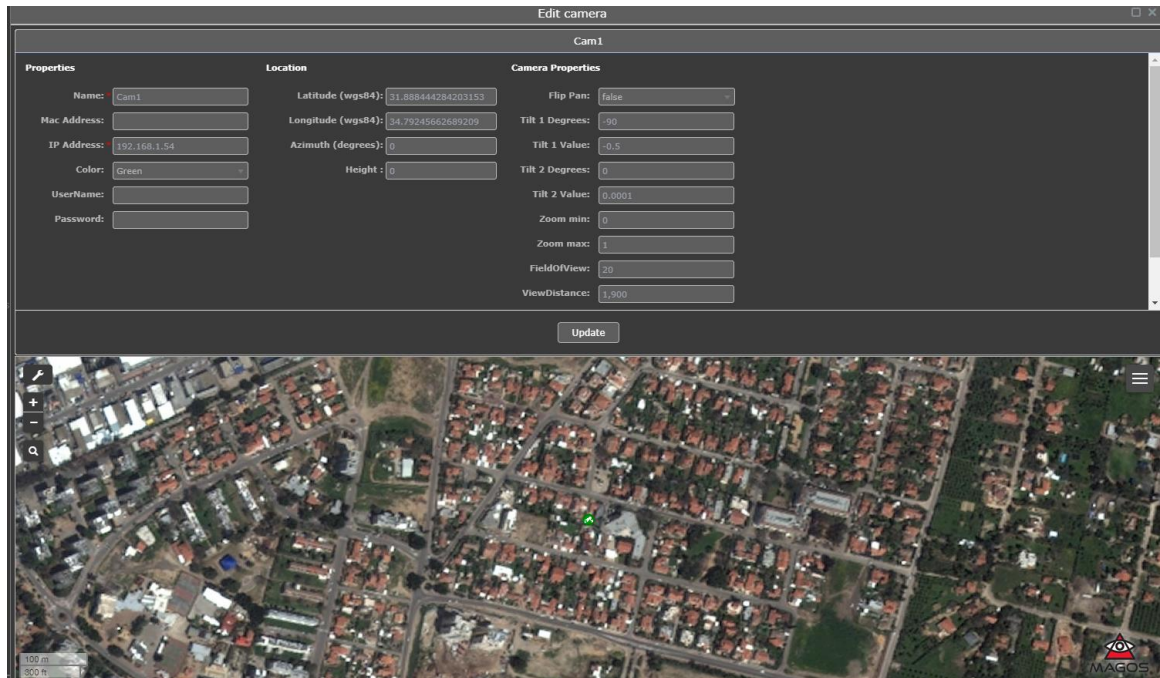

Figure 28: Camera sensor configuration menu
- Camera:  Cameras can be assigned a color by using the Camera sensor configuration menu; for details, see the description below Figure 28: Camera sensor configuration menu on page 24. When communication with the radar is down, the icon is colored in gray.